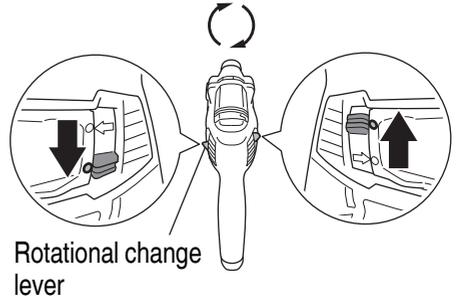

Fig. 6
10. Check the rotational direction (**Fig. 6, 7**)